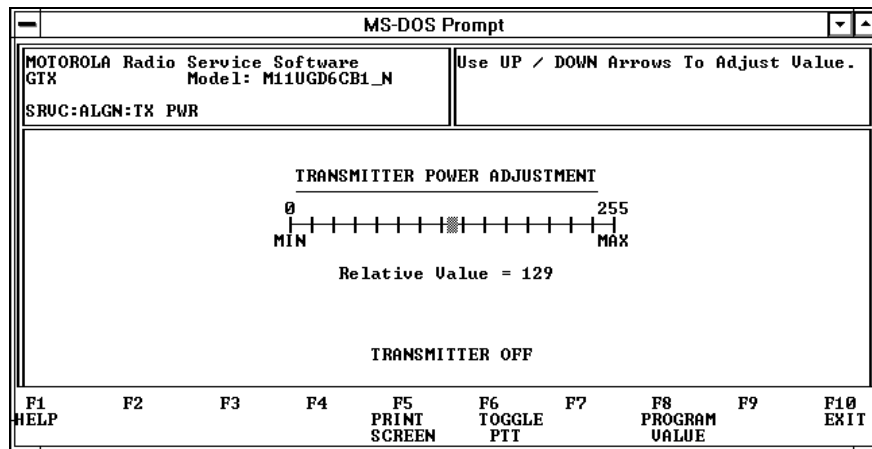

Figure 11.7 –Transmit Power Adjustment
1. Press F3, "Set TX POWER" from the board replacement menu. The transmitter power adjustment screen is shown in Figure 11.7.